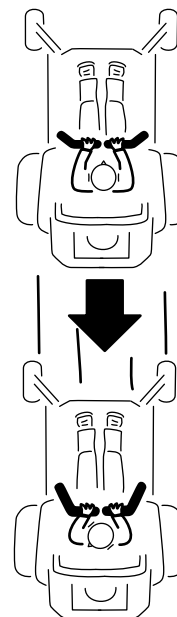

Figure 34
2. To go backward, slowly pull the motion-control levers rearward (Figure 34).